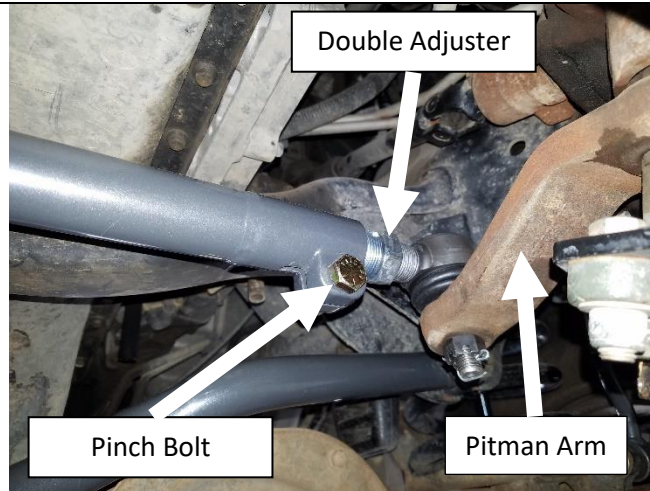

Figure 8. Pitman Arm Side of Synergy Drag Link Shown with Pinch Bolt Down
14. Synergy 8567-11 drag links are oriented with the pitman arm side pinch bolt down. See **Figure 8**.